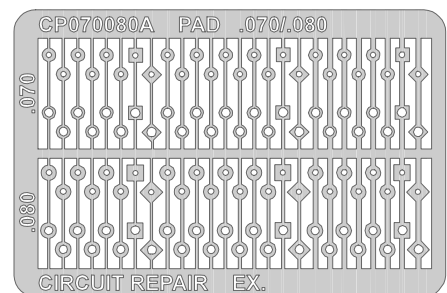

Figure 2: Select a replacement land that matches the missing land.
8. Select a replacement land that most closely matches the land to be replaced. (See Figure 2).